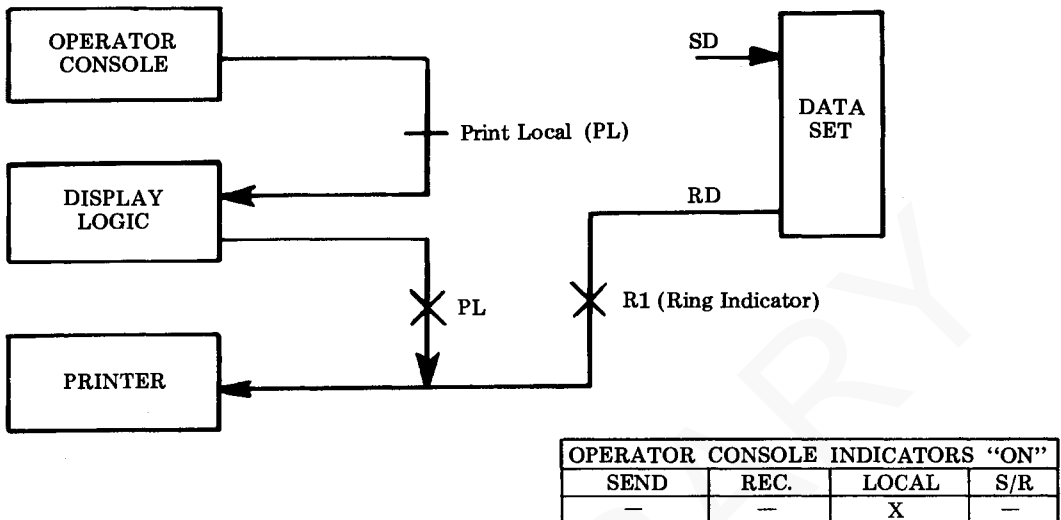

Fig. 1—Local Mode
7.21 In the local mode (Fig. 1), the controller interfaces the opcon to the display logic. This "off-line" mode allows the terminal operator to prepare or edit information to be stored in the display logic and displayed on the monitor prior to transmission to the line or a local printer. The terminal is in the local mode when the lamp is lighted in the LOCAL switch keypad on the opcon. Printer access in the local mode is discussed in 7.32.